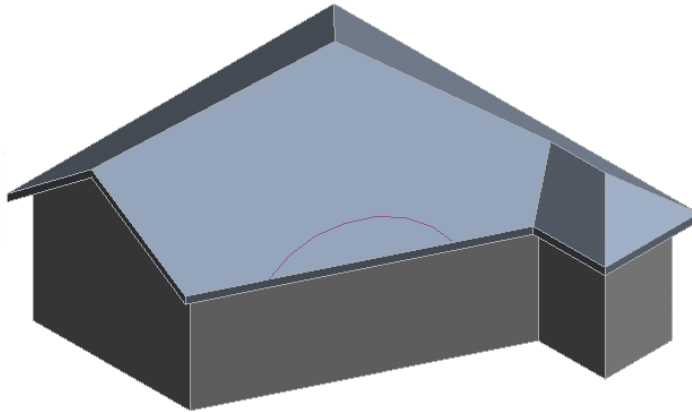

FIGURE 3.20 Creating the arc
4. Create the arc approximately as shown in Figure 3.20. When you've finished drawing the arc, set Extrusion End in the Properties palette to 20'-0" (6100 mm).